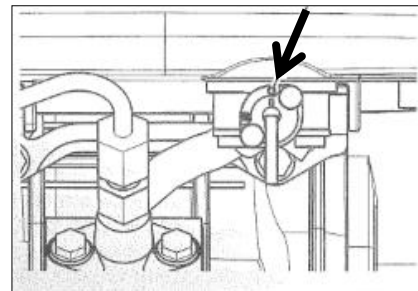

Figure: 31
- Open the fuel shut-off (see figure 31).